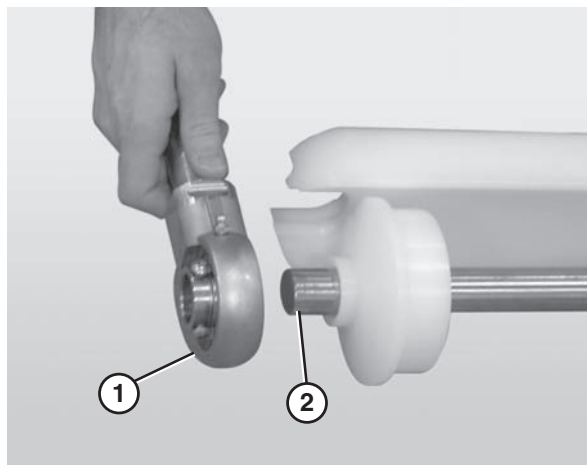

Figure 74
5. Slide the bearing shaft assembly (Figure 74, item 1) off the idler shaft (Figure 74, item 2).